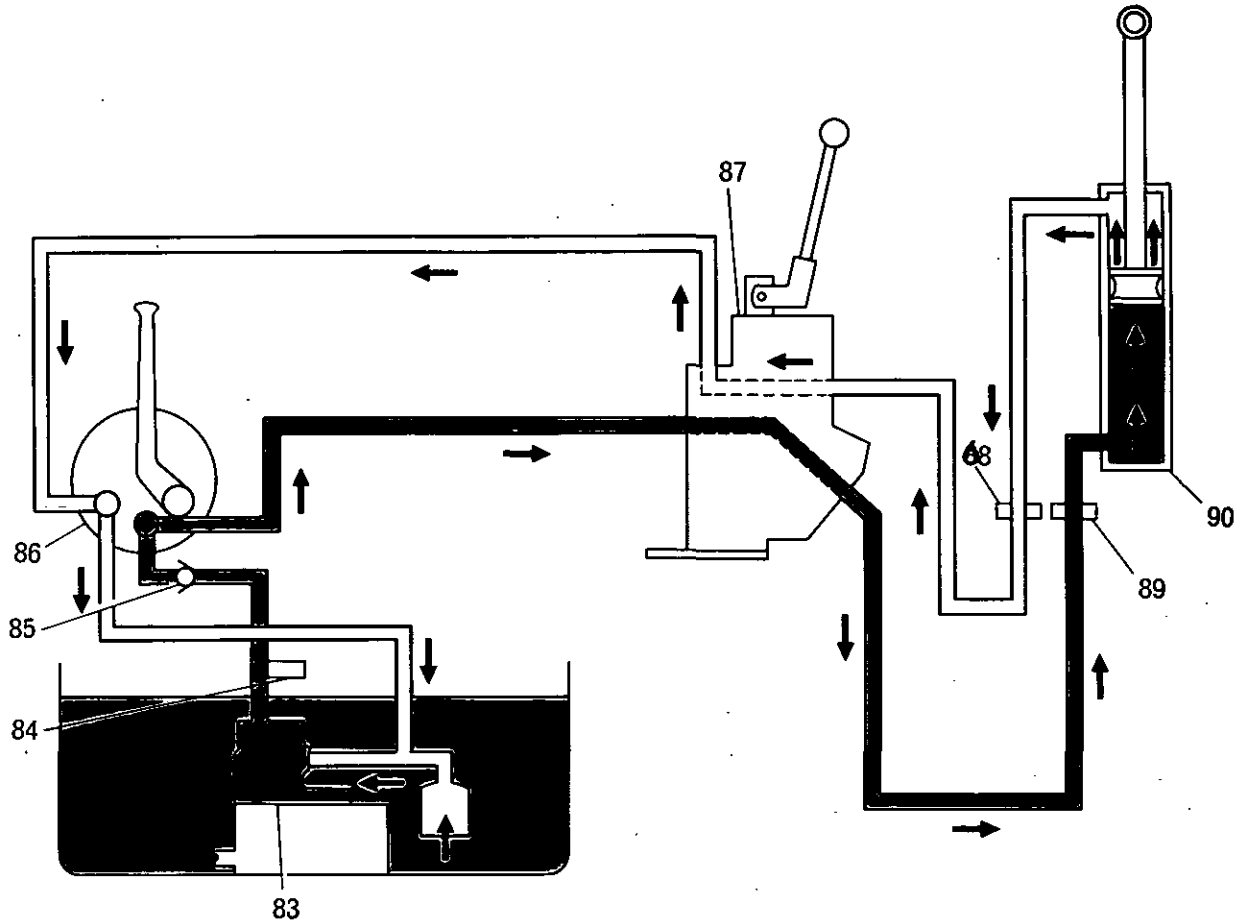

FIG. 16A
**Double-Acting Ram-Wooster Spool Valve****Raising (Lever Back)** (Fig. 16A and 16B)